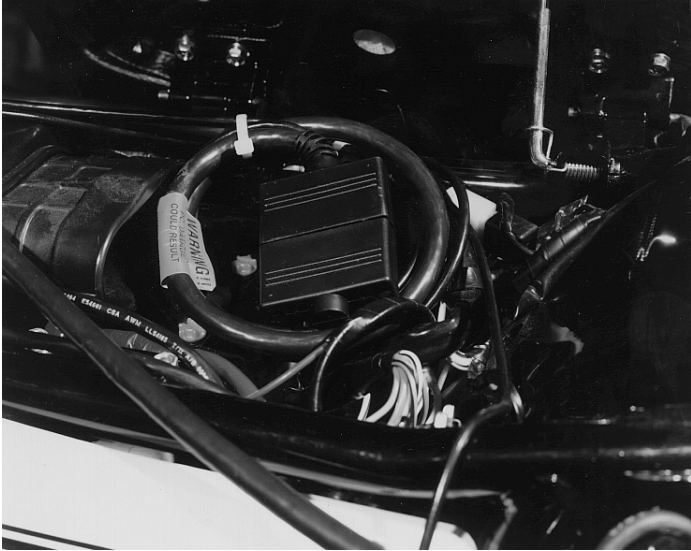

Figure 11 - Option Cable Stored Beneath Saddle Area
4. Pass the power and control cables through the square hole in the bottom of the radio case assembly to the area beneath the saddle. See Figure 7 which shows cable routing under the center of the case assembly. Figure 11 shows the cabling underneath the saddle area. (Note the location of the option cable and connector, not being used.)